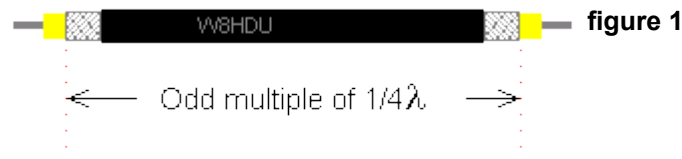

figure 1
**When measuring the cable, I tend to use the braid as I have prepared it for a connector. See figure 1 below.**